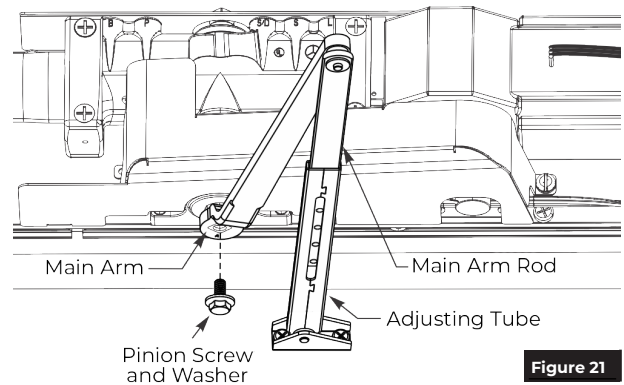

Figure 21
- With door open, slide main arm rod into adjusting tube. (Figure 21)
- Place square of main arm onto closer pinion. (Figure 21)
- Attach main arm to pinion with screw then tighten with 7/16" wrench. (Figure 21)